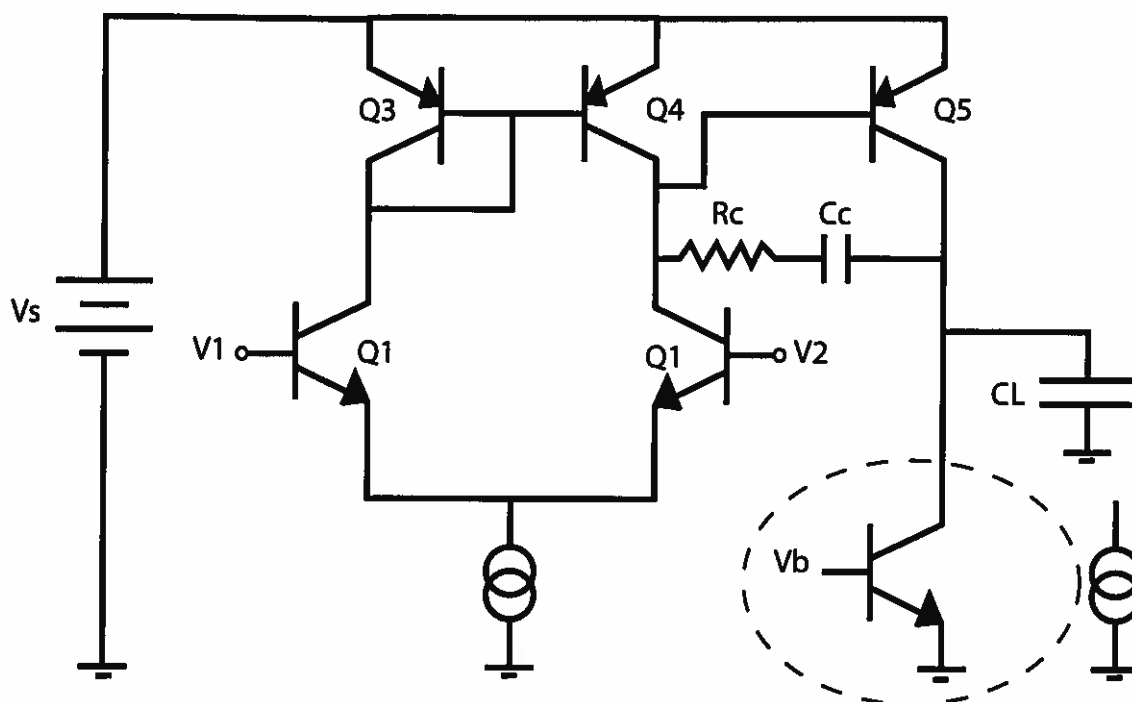

Figure 2. Answer to 1.c, drawing the second stage of the amplifier.
**2.a)** Figure 2.a of question is a bandgap voltage reference circuit which has almost zero temperature coefficient, used mainly as stable voltage reference in ICs. For BG reference,
Circuit of figure 2.b is a Vgs multiplier.
Figure 2.c. is a regulated cascade current sink/source drain-source voltage of Q1 is regulated by the feedback amplifier Q2. It has a very high output impedance equivalent to that of a double cascade